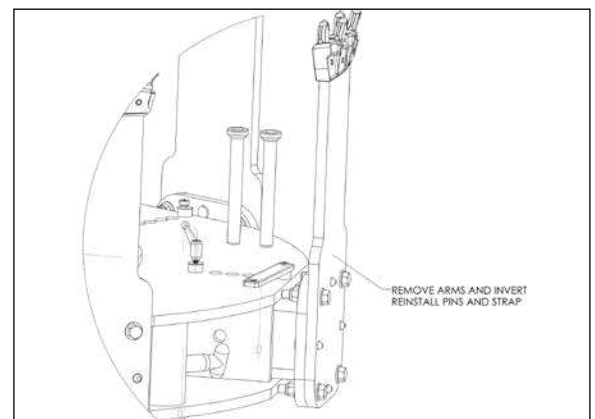

Figure 14. Removing Inverted Cutting Arm
14. Support the Cutting Arm from below as you remove the Arm Retainer Pin [P-MM0113] and carefully invert the arm before replacing it. See Figure 14.